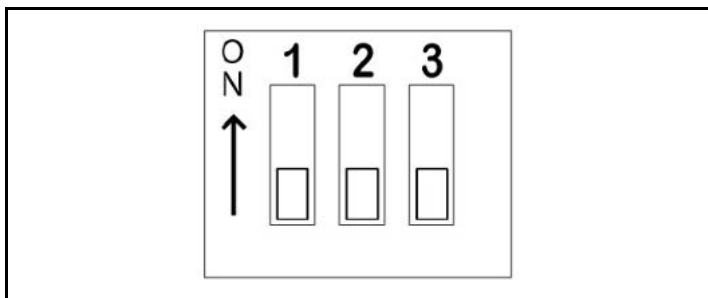

Figure 3-31 - Modbus RS-485 Network Configuration Switches
There are three (3) switches (DIP switch) that allow enabling or disabling some termination and bias resistors for the proper function of the RS-485 network (see *Figure 3-31*). These switches are located on top-right corner when the thermostat enclosure is open.